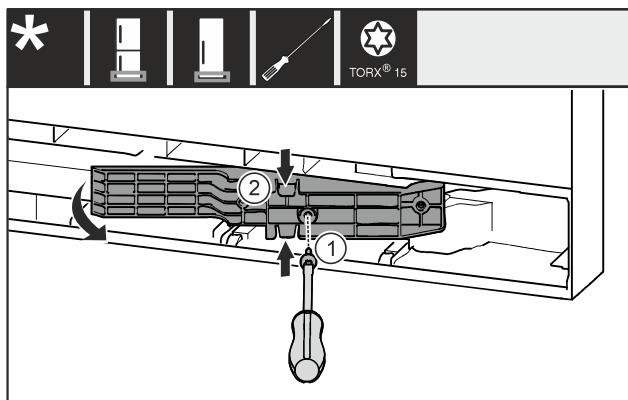

Fig. 19\*
- ▶ Remove the screw Fig. 19 (1)\*
- ▶ Gently press the top and bottom of the adapter piece Fig. 19 (2) together and pull it out.\*